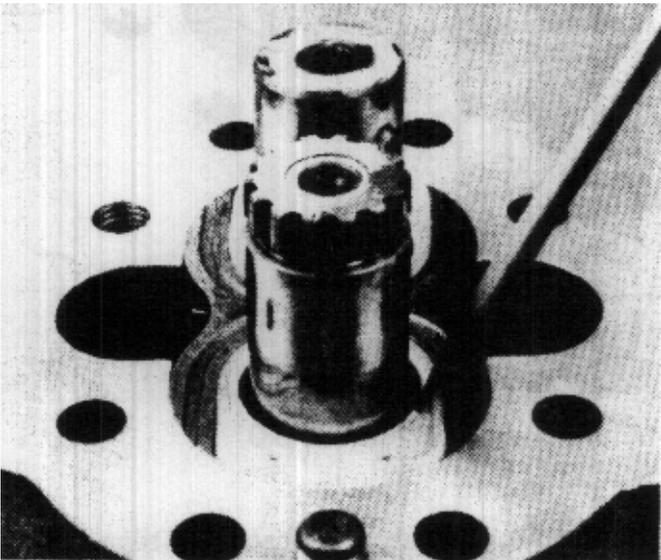

FIGURE 99
38. Place a back-up ring (14) on each shaft and seat the rings carefully against the pressure plate. (Fig. 99)